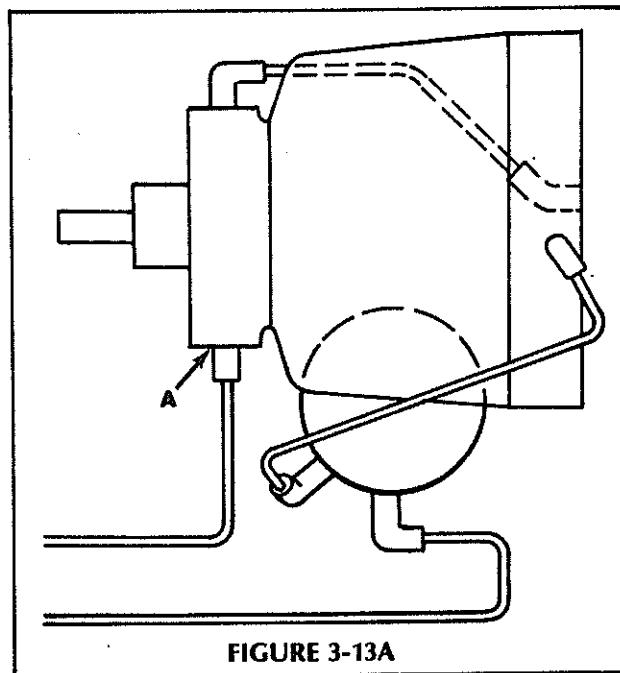

FIGURE 3-13A
The hydrostatic pressure can be checked using a pressure gauge which reads at least 1000 P.S.I. To check the hydrostatic pressure install the gauge into a tee hydraulic fitting between hydrostatic port (A) Figure 3-13A and existing hydraulic tube. Start engine and run for 5-10 minutes. At full RPM the pressure reading should be 140 P.S.I.  $\pm$  50 (964 kPa).